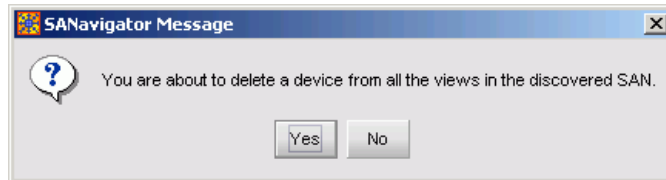

Figure D-15 SANavigator or EFCM Message Dialog Box
- b. Select the *Delete* option from the pop-up menu. The *SANavigator* or *EFCM Message* dialog box displays (Figure D-15 on page D-12).